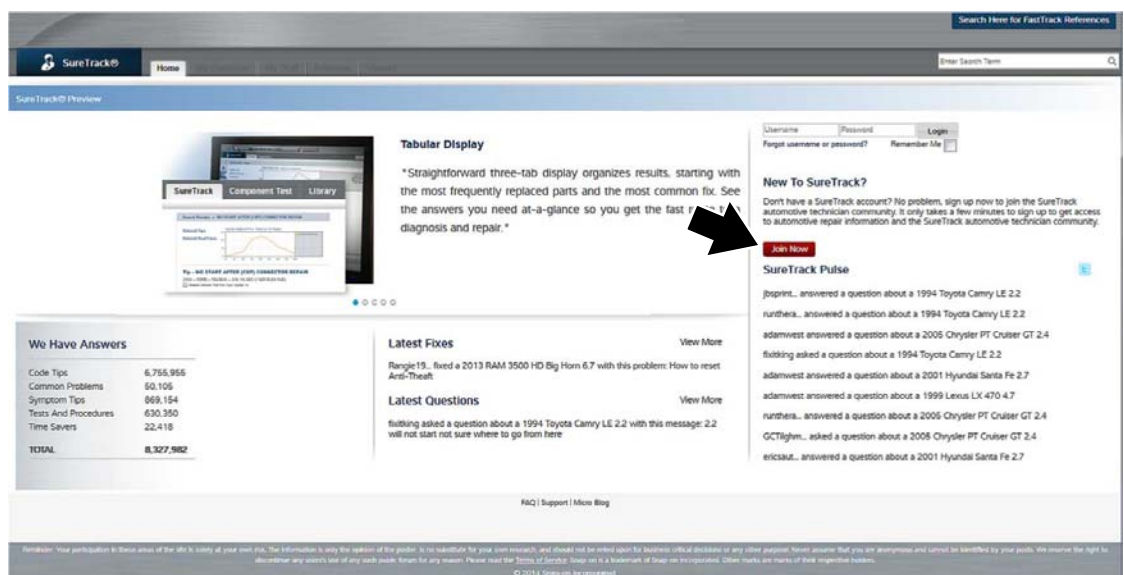

Figure 15-2 SureTrack Website Login Page (Join Now icon)
2. From the SureTrack website Login page, select the **Join Now** icon (Figure 15-2) on the right side of the screen to open the registration form (Figure 15-3).